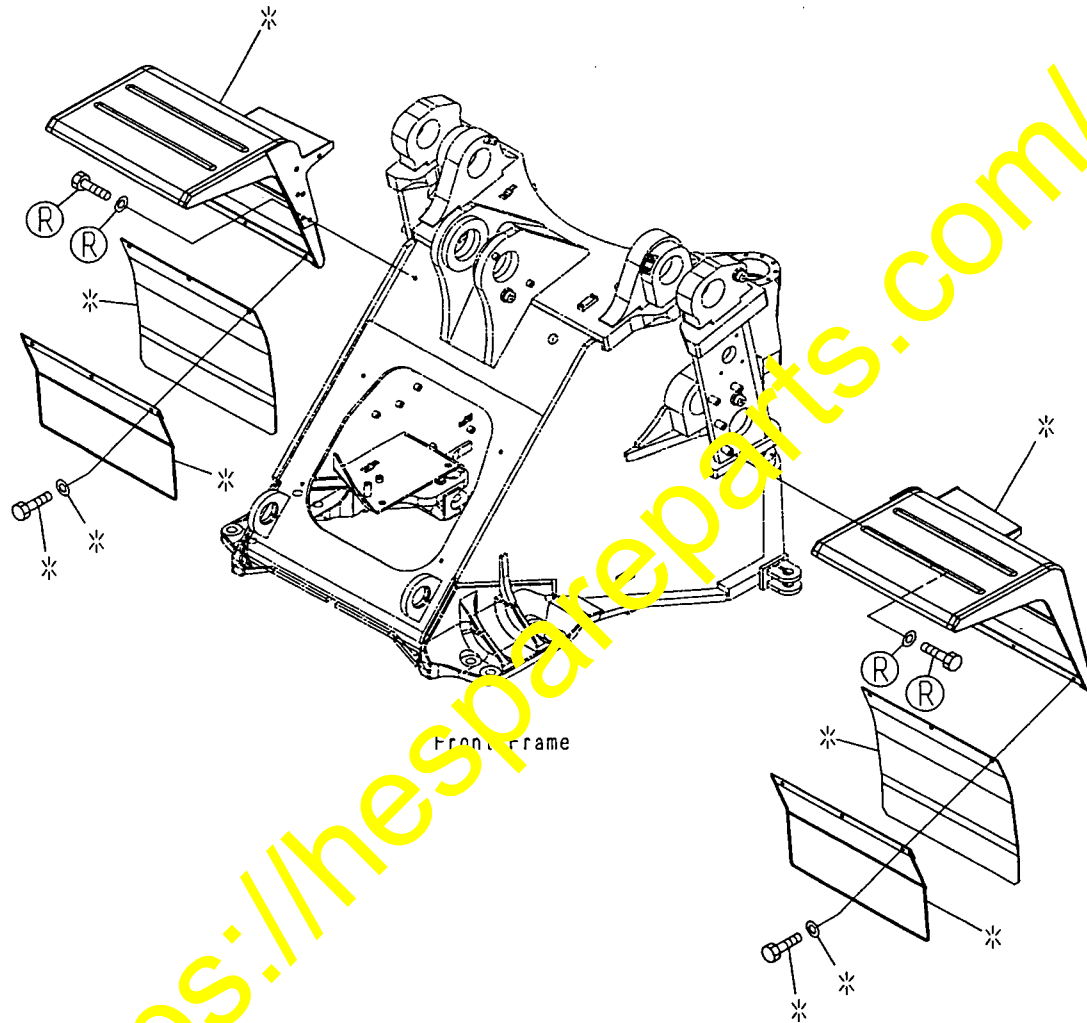

Fig. 1
(1) Removing the left and right side front fenders
- The parts that must be removed are shown in Fig. 1.